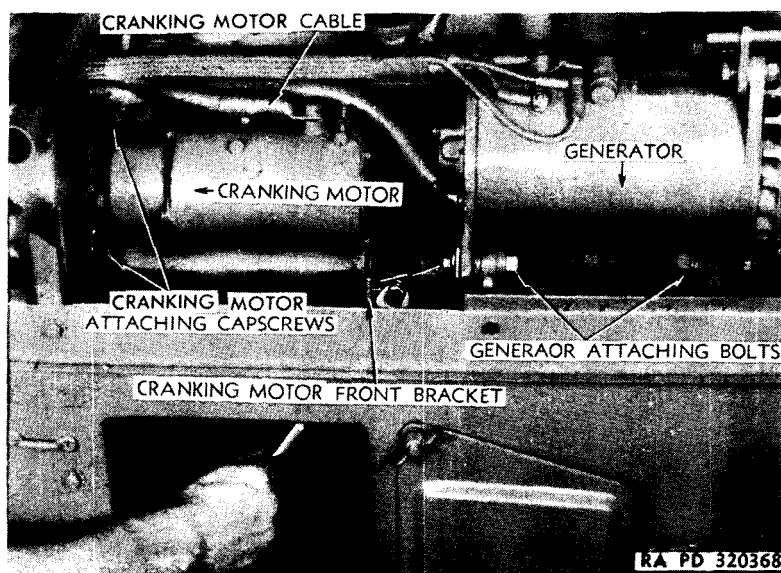

Figure 68—Removing Cap Screw from Cranking Motor Bracket
c. Replacement of Cranking Motor. Remove engine preheater (par. 77). Disconnect battery cable at cranking motor terminal (fig. 68). Remove cap screw holding cranking motor front support bracket and generator ground strap to cylinder block (fig. 68). Remove two cap screws holding cranking motor to flywheel housing (fig. 68). Pull